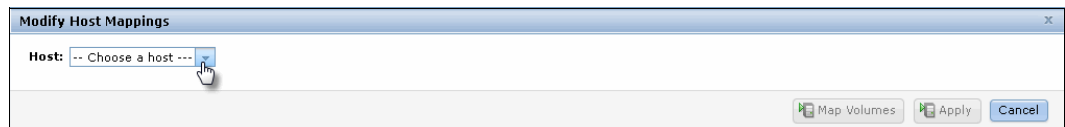

Figure 5-20 Choose a host
1. Select a host to which the new volume should be attached, as shown in Figure 5-20.